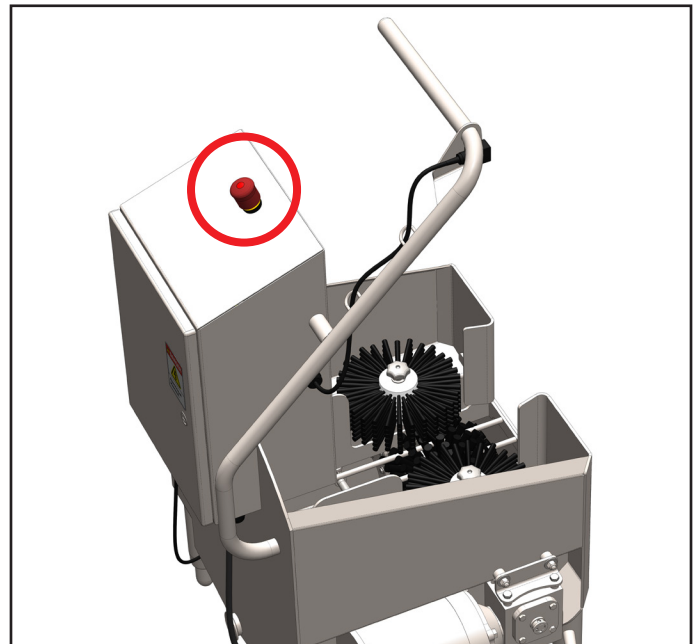

Fig. 7.1: E-Stop illumination
2. Pull the E-STOP switch up to engage power, when illuminated the unit has power [Figure 7.1].